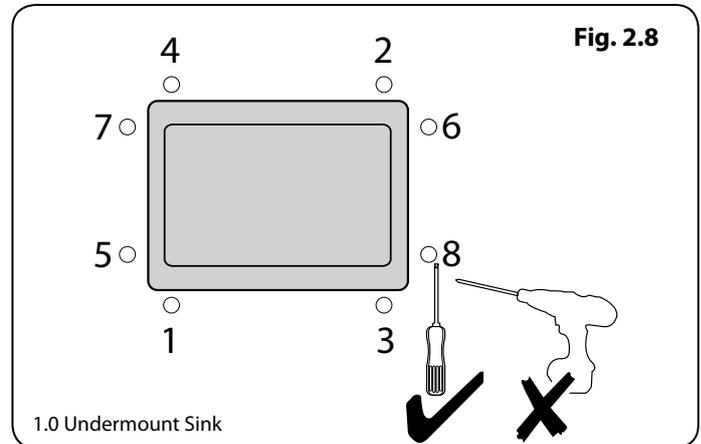
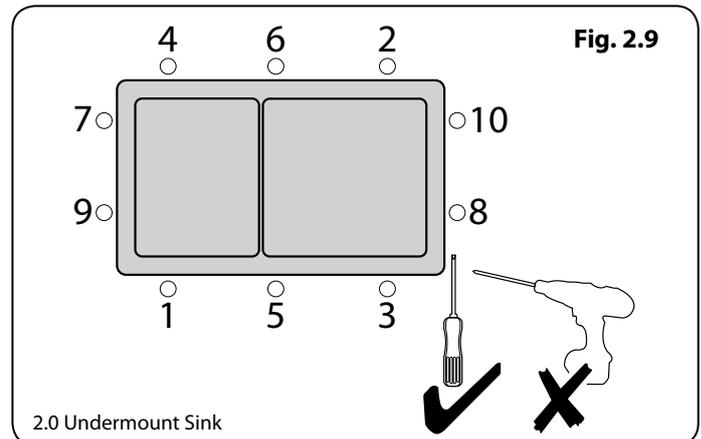

Fig. 2.8
Fig. 2.9
2. Centre the sink. Tighten the fixing screws in the sequence shown in **Fig. 2.8** for 1.0 Undermount Sink or **Fig. 2.9** for 2.0 Undermount Sink.